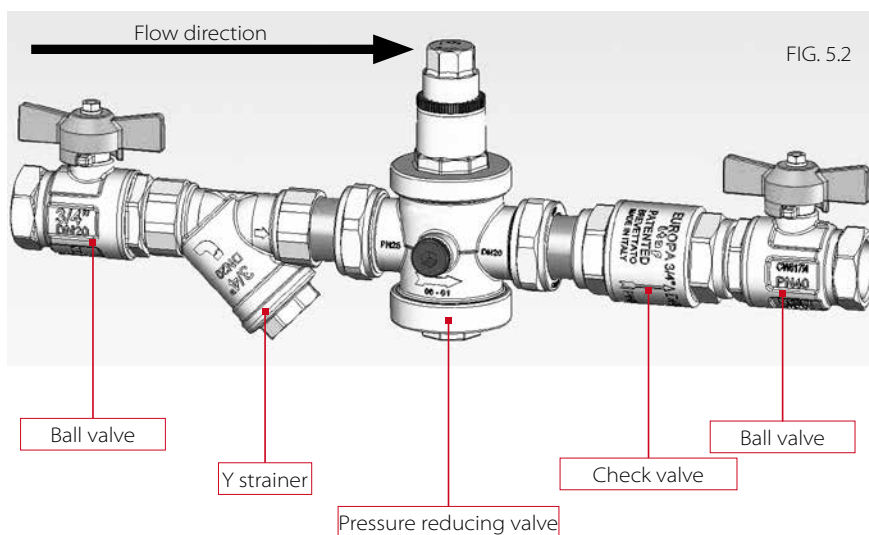

FIG. 5.2
- The right scheme of installation is shown in Fig. 5.2